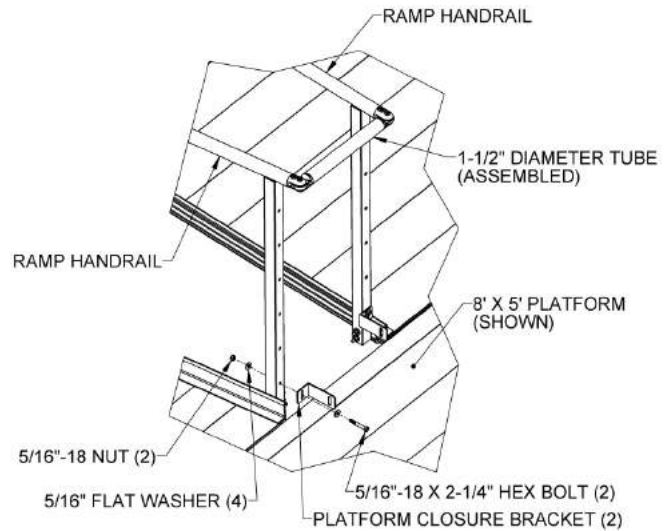

FIG. 5.22
- 5.7.10. Locate the platform closure brackets and attach the short leg of the brackets to the lower holes in the ramp posts with 5/16"-18 x 2-1/4" hex bolts, 5/16" flat washers and 5/16"-18 nuts (FIG 5.22). Orient the brackets so the long leg is on the same side as and parallel to the bracket on the opposite side then tighten lightly (enough to hold the brackets against the posts but still allow it to rotate).
- 5.7.17. The 8' x 5' Vertical Picket Closure can only be used with the 8' x 5' platform. If the ramps have Vertical Picket or Horizontal Picket handrails, first remove the 5/16"-18 x 2-1/4" hex bolts and 5/16" flat washers from the uppermost rail and reinstall through the slots in the 8' x 5' Vertical Picket Closure brackets (FIG. 5.26). If the ramps have Single-Line or Two-Line handrails, use the included 5/16"-18 x 2-1/4" hex bolts and 5/16" flat washers with 5/16"-18 nuts inserted through the slots in the 8' x 5' Vertical Picket Closure brackets and the uppermost hole in the ramp handrail post in a similar manner to FIG 5.22.